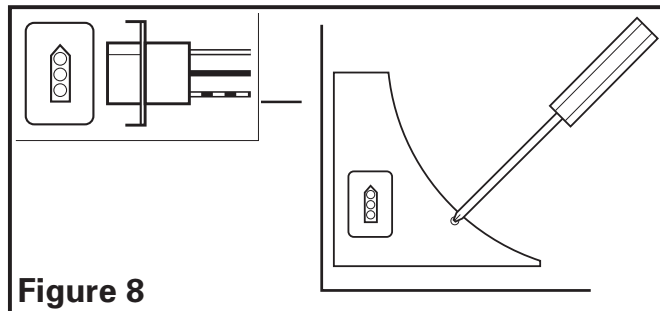

**Figure 7**
2. From where you have access to inside the fan's junction box, connect the White wire from the house to the White wire from the fan's receptacle. Connect the Black wire from the wall switch to the Black wire from the fan's receptacle. Connect the ground wire from the house to the Green wire from the fan's receptacle (**Figure 7**). Use approved methods for all connections.